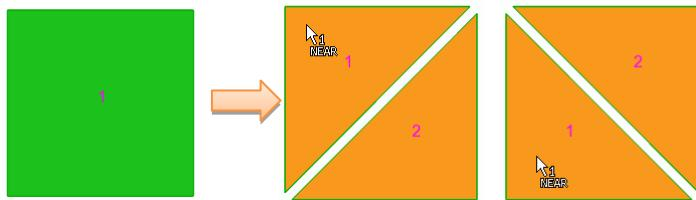

Figure 7-8 Shows different alternatives of splitting quad into a triangle depending on the mouse cursor position.
- If a quad element is chosen, Move Triangle will suggest splitting it to triangles as shown in Figure 7-8. The user can then drag or merge any of these triangles. By clicking the primary mouse button a split will be executed and the operation will end.